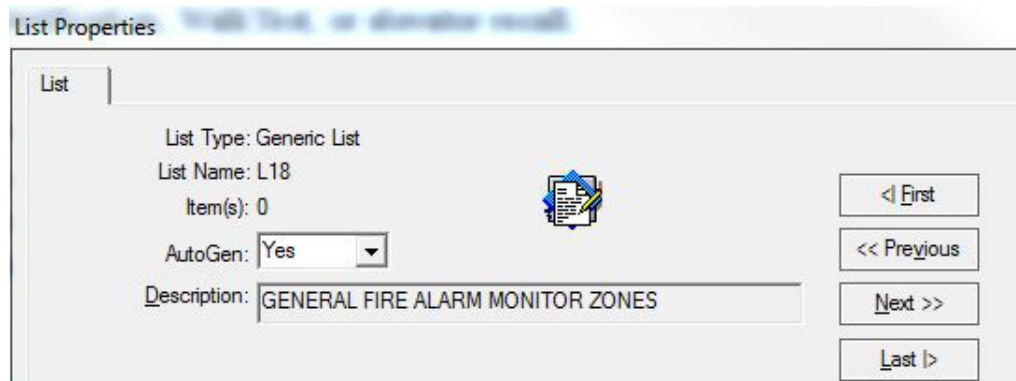

Figure 8-2. List Properties Window
3. Right click on the list whose autogen property you want to change. Select Properties from the list that appears. A dialog similar to Figure 8-2 appears.